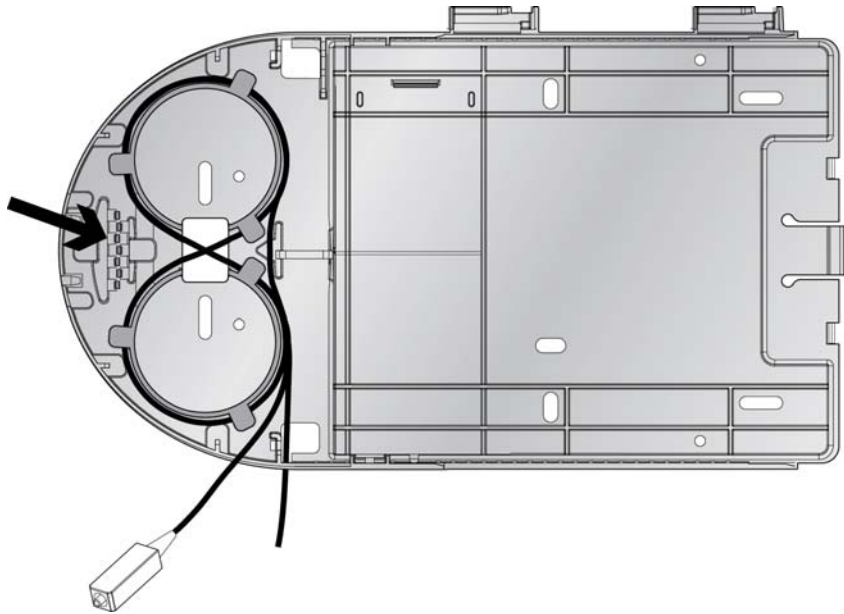

Figure 5: Fiber looped around center reels with the sleeve clip identified.
3. Wrap the fiber around the center reels to take up the excess fiber. If a fusion splice was used to attach a connector pigtail to the fiber, secure the splice protection sleeve in the clip features. (Figure 5)